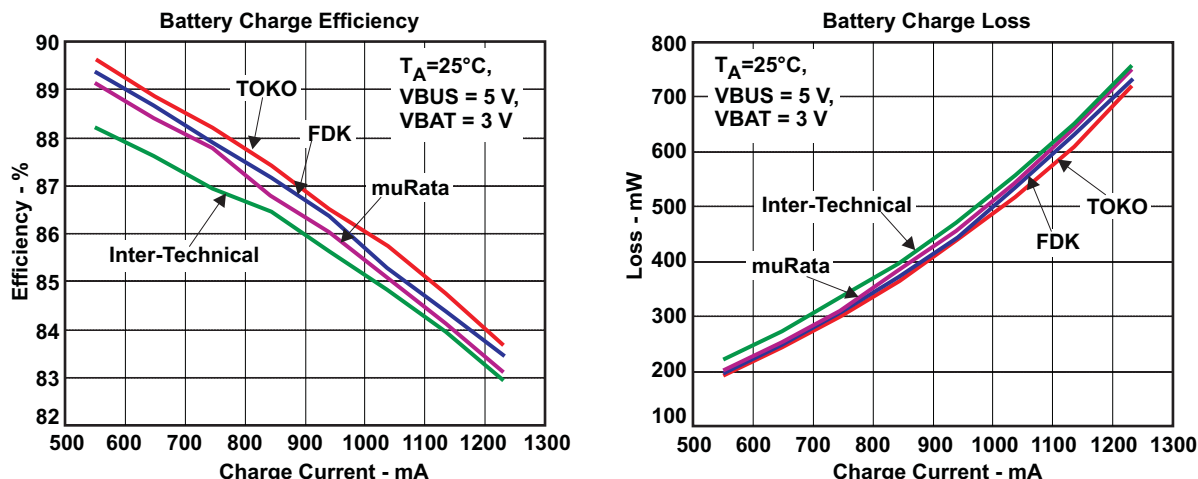
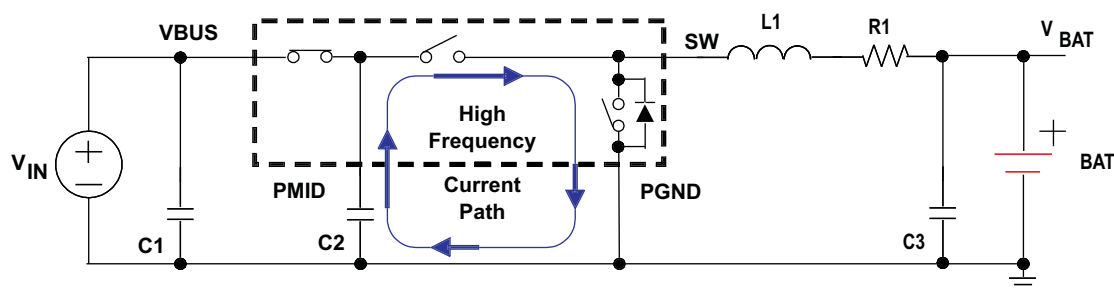
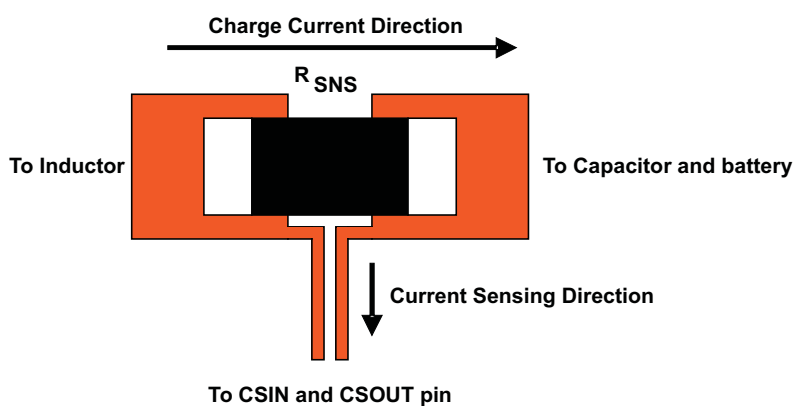

Figure 38. Measured Efficiency and Power Loss
Figure 39. High Frequency Current Path
Figure 40. Sensing Resistor PCB Layout
4. Measured efficiency and total power loss with different inductors are shown in Figure 38. SW node and inductor current waveform are shown in Figure 39.
- To obtain optimal performance, the power input capacitors, connected from input to PGND, should be placed as close as possible to the pin. The output inductor should be placed close to the IC and the output capacitor connected between the inductor and PGND of the IC. The intent is to minimize the current path loop area from the SW pin through the LC filter and back to the PGND pin. To prevent high frequency oscillation problems, proper layout to minimize high frequency current path loop is critical. (See Figure 39.) The sense resistor should be adjacent to the junction of the inductor and output capacitor. Route the sense leads connected across the RSNS back to the IC, close to each other (minimize loop area) or on top of each other on adjacent layers (do not route the sense leads through a high-current path). (See Figure 40.)